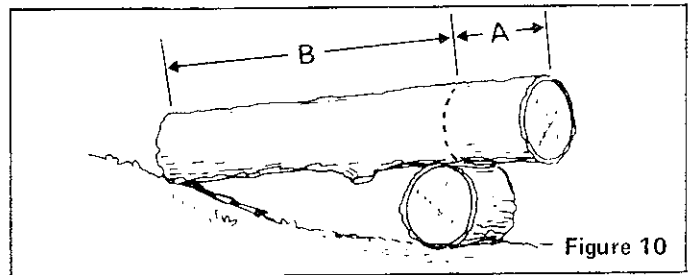

Figure 10
Bucking is the sawing of a log or fallen tree into smaller pieces. (See Figure 10)
- A In area "A", come up from the bottom 1/3 of the way. Finish by coming down from the top. Figure 10
- B In area "B", come down from the top 1/3 of the way. Finish by coming up from the bottom. Figure 10